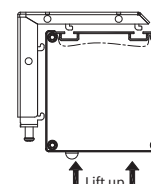
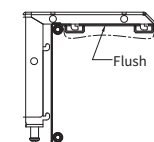
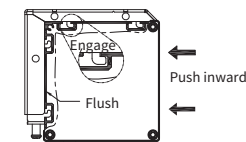

Figure 8
Figure 9
Figure 10
4. Carefully raise the screen housing and align it with the horizontal locking groove on the mounting bracket (see Figure 8). Insert the top of both brackets into the notches on the screen housing until the brackets sit flush with the top panel (see Figure 9). Then, push the screen toward the wall so that the locking hook clicks into the rear groove on the housing. Verify that the screen is fully seated and flush against the mounting surface. (See Figure 10)